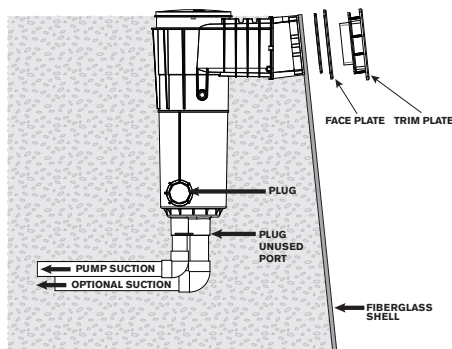
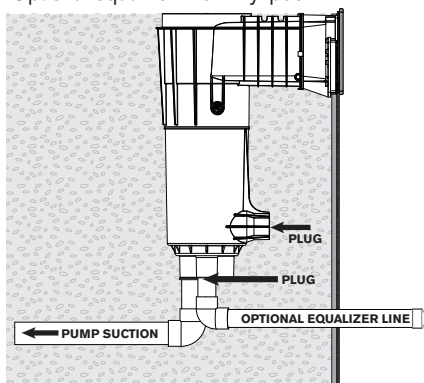

Fig. 6a
Fig. 6b
4. **Optional SKIMMER EQUALIZER LINE** - Fig. 6a or Fig. 6b. If a equalizer line is required plumb the front bottom 2" port with an 18" length of 2" Schedule 40 PVC and cap the end to prevent gunite from entering. **An optional float valve assembly will be needed for this option. Float valve purchased separately. Install an equalizer fitting that conforms to ANSI/APSP-16.**